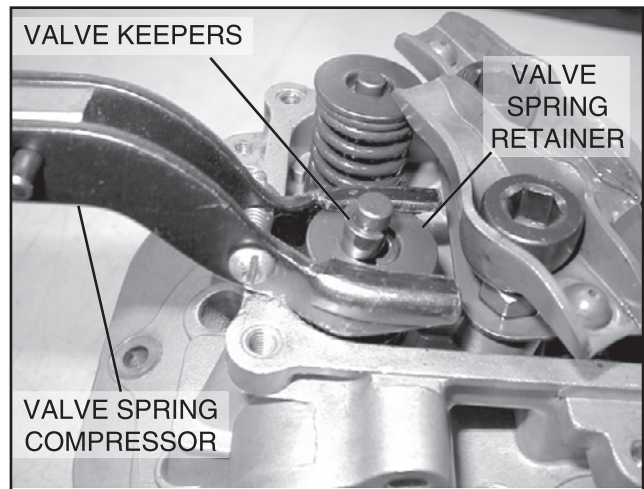

Figure 5-5. Removing Retainers
2. Hold down valve spring retainer with a valve spring compressor (Figure 5-5). Remove the following: